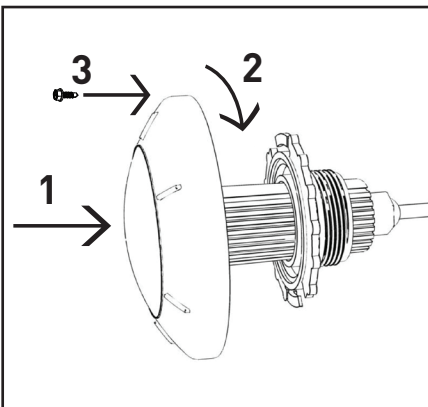

Figure 2. Attach Light to the Docking Ring
3. If you are using the docking ring to install the light to a 1.5" threaded plastic fitting, attach the ring to the fitting then feed the cable through the mounted docking ring. Mount the light to the docking ring as shown in figure 2. If you will be using the stake to install the light, proceed to section 2.